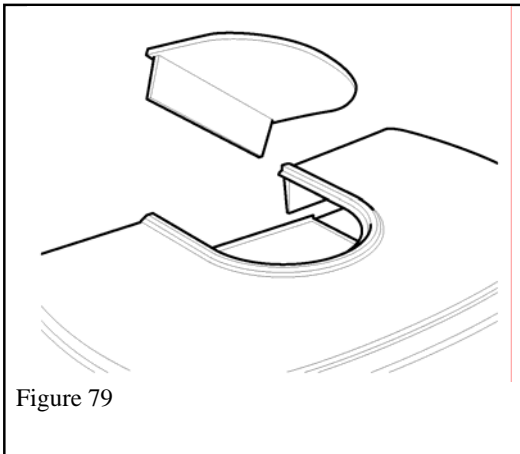

Figure 79
3. *If rear vent connection:* Fit the top infill casting. See figure 79.